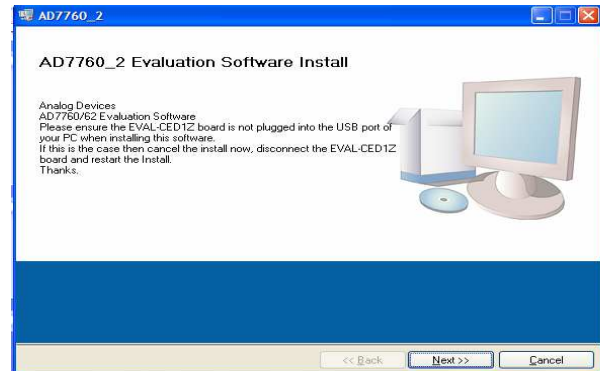

Figure 2. EVAL-AD7760\_2EDZ Setup Dialog Box, Initial Software Install Screen
2. The dialog box shown in Figure 2 appears.